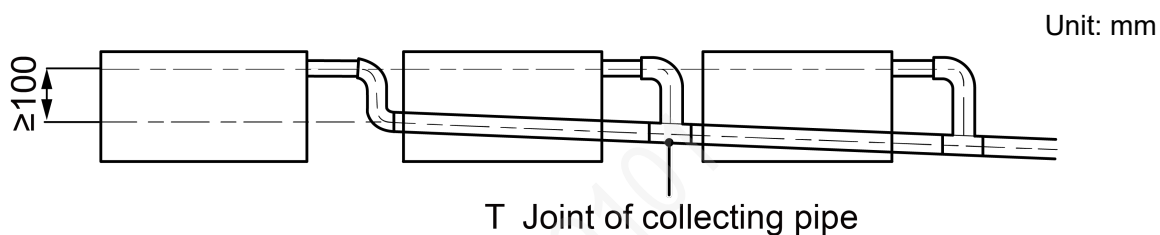

Fig 4.10
- (4) When connecting several drain pipes, follow the instruction as indicated in Fig4.10. Choose the drain collecting pipe that matches with unit capacity.